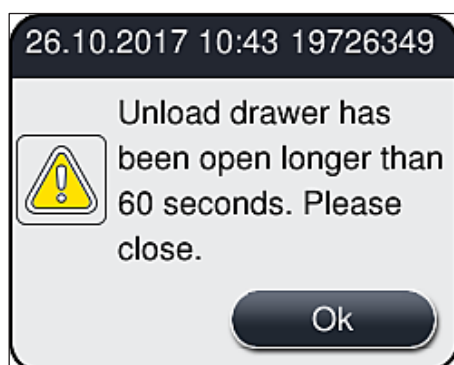

Fig. 78
- The user receives an information message (→ Fig. 78) if the unload drawer is open for longer than 60 seconds.